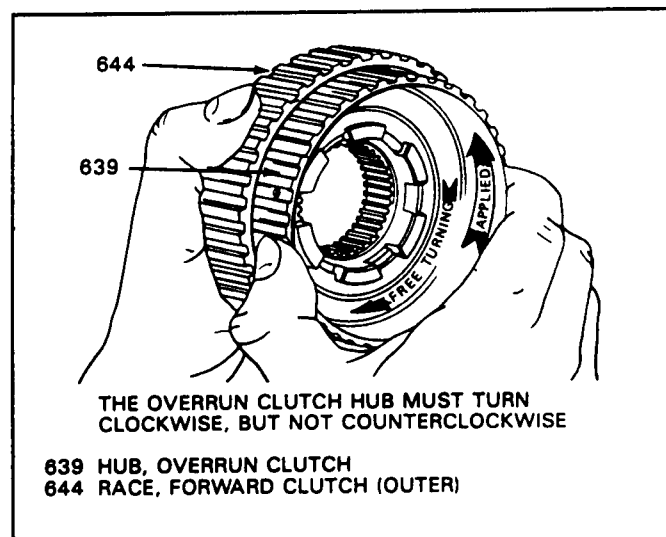

Figure 121
7. Test the complete assembly as shown in Figure 121. If the assembly operates backwards, you have installed the sprag backwards. Reassemble correctly.